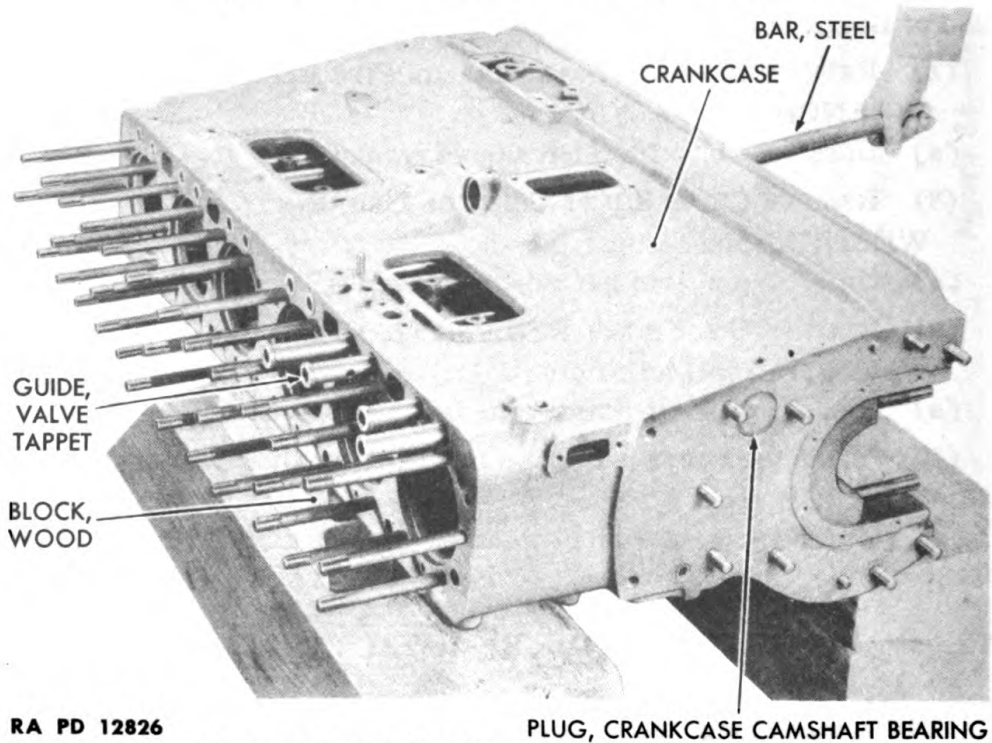

Figure 58—Valve Tappet Guide Removal
72. VALVE TAPPET GUIDE REMOVAL (fig. 58).
(1) REMOVE CRANKCASE CAMSHAFT BEARING PLUG (fig. 58).